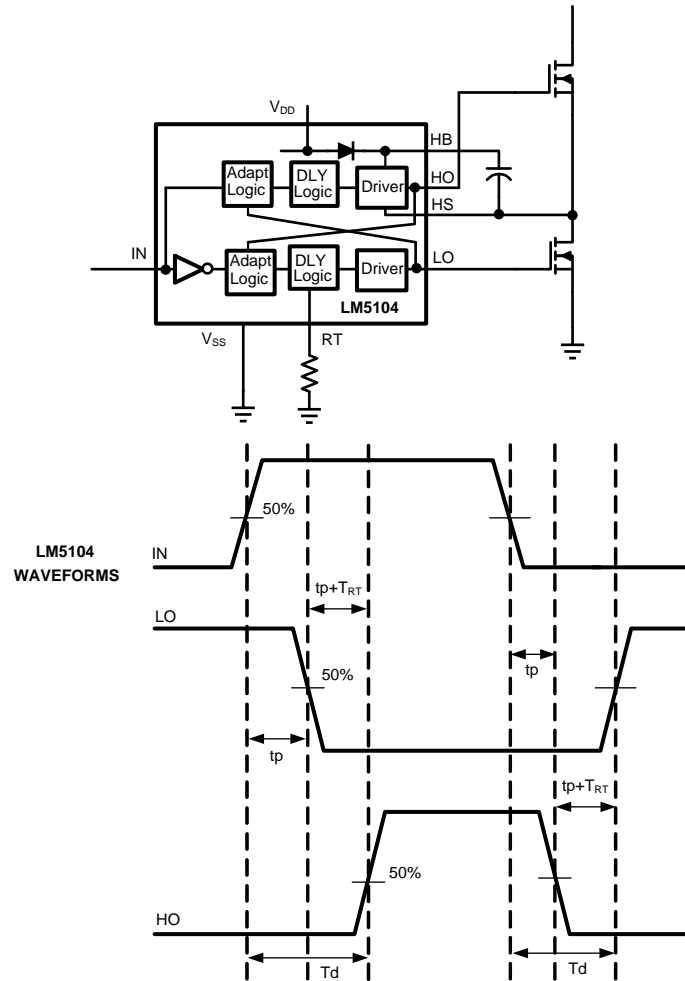

Figure 18. Application Timing Waveforms
LM5104 is a high voltage, high speed dual output driver designed to drive top and bottom MOSFET's connected in synchronous buck or half-bridge configuration, from one externally provided PWM signal. LM5104 features adaptive delay to prevent shoot-through current through top and bottom MOSFETs during switching transitions. Referring to the timing diagram Figure 18, the rising edge of the PWM input (IN) turns off the bottom MOSFET (LO) after a short propagation delay ( $t_p$ ). An adaptive circuit in the LM5104 monitors the bottom gate voltage (LO) and triggers a programmable delay generator when the LO pin falls below an internally set threshold ( $\approx V_{dd}/2$ ). The gate drive of the upper MOSFET (HO) is disabled until the deadtime expires. The upper gate is enabled after the TIMER delay ( $t_p + T_{RT}$ ), and the upper MOSFET turns-on. The additional delay of the timer prevents lower and upper MOSFETs from conducting simultaneously, thereby preventing shoot-through.